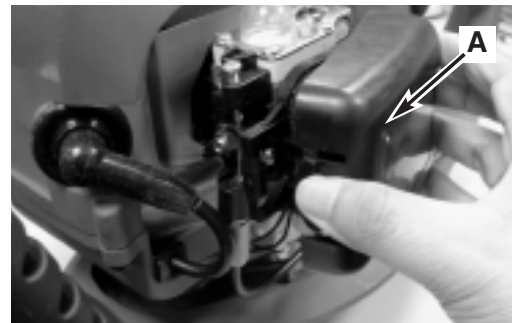
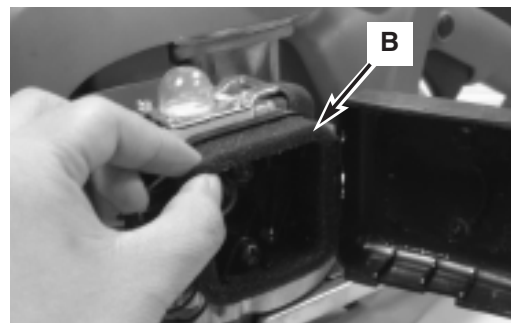

Fig. 13
Fig. 14
1. Remove cover (A) by depressing clip on front of cover and lift filter (B) from air box (Figure 13 & Figure 14).